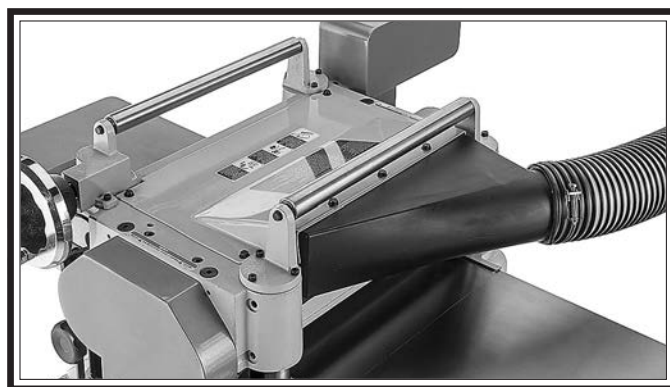

Figure 22. Example of dust hose connected to dust port.
1. For SB1108, fit a 4" dust hose (SB1109 requires 5" dust hose) that is connected to a dust collector over dust port (see **Figure 22**), and secure in place with a hose clamp.